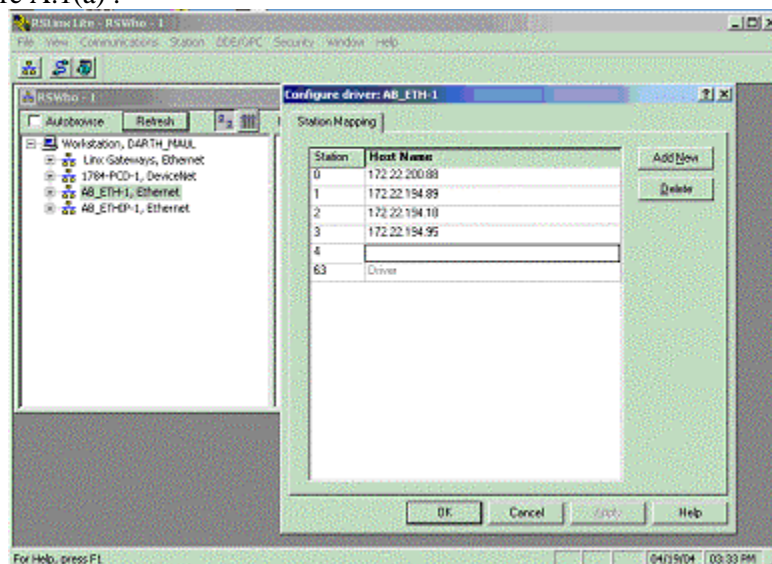

Fig. A.1(a) Configuring the driver
3. Configure an AB_ETH driver in RSLinx. The configuration screen should be similar to the screen shown in Figure A.1(a) .